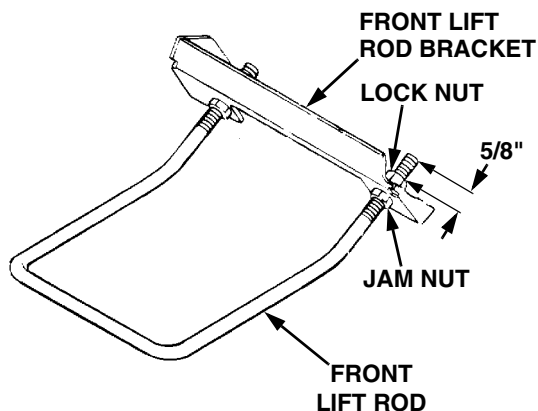

Figure 51
2. If making the initial installation of the deck, adjust the front lift rod to allow 5/8 inch of thread to protrude beyond both lock nuts of the front lift rod/bracket assembly (See Figure 51).
6. To adjust the downward tilt of the blades, adjustment of the front lift rod is required. Refer to Figure 51 and proceed as follows: